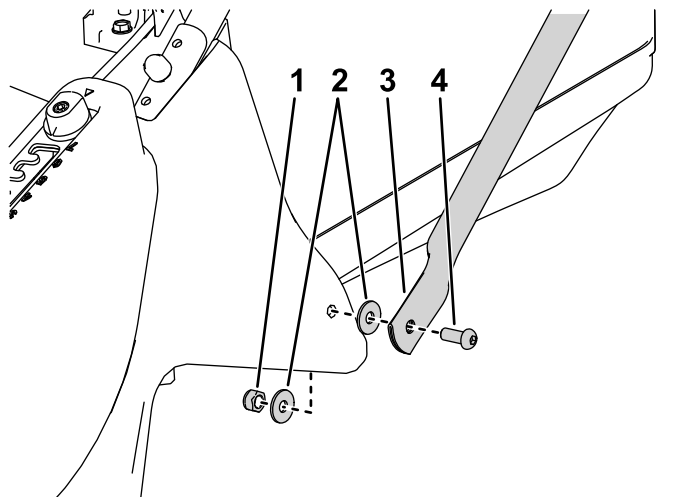

Figure 5
3. Install the bottom of the brace handlebars to each side of the mower deck using a short bolt, flat washers on the inside and outside of the deck, and a locknut (Figure 5).